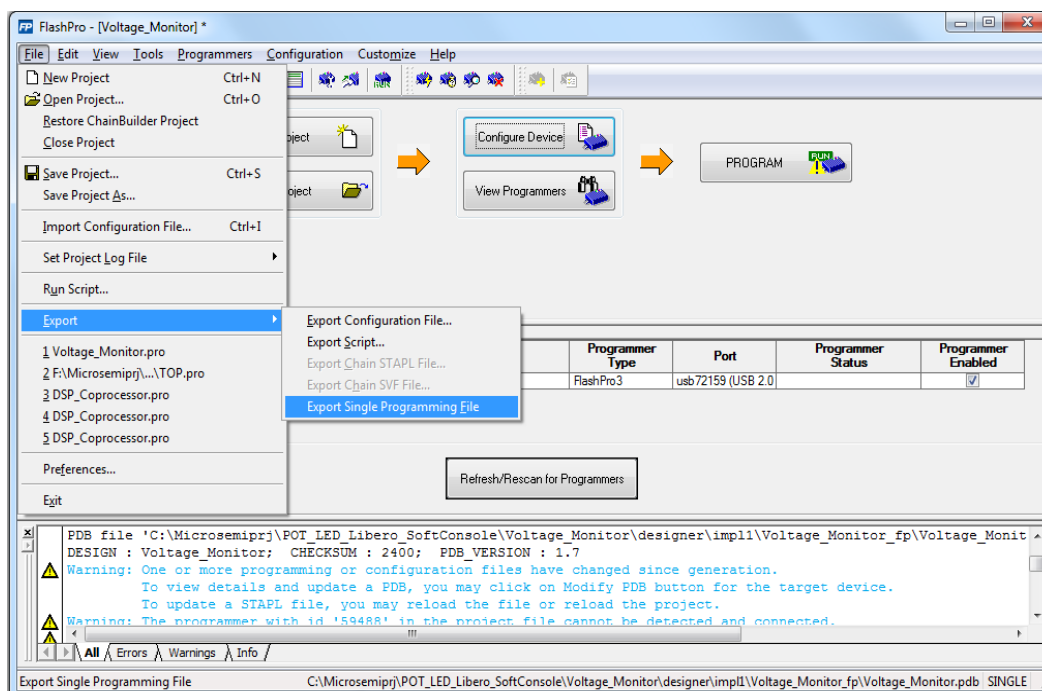

Figure 12 · Exporting The Programming File
13. Click **File > Export > Export Single Programming File** for generating the STAPL file as shown in Figure 12 . .